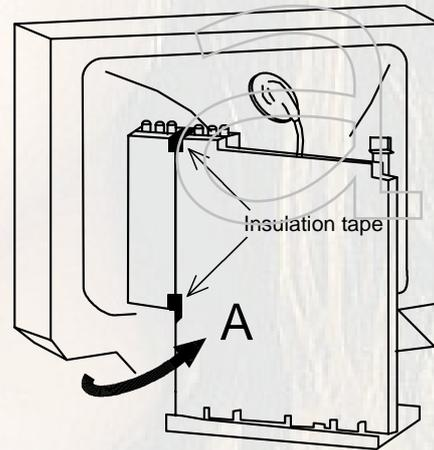

Figure 5-1
- (1) Disconnect CN501 (speaker).
- (2) Rotate the P.C.B. in the direction of "A" and establish the service position. (See Figure 5-1)